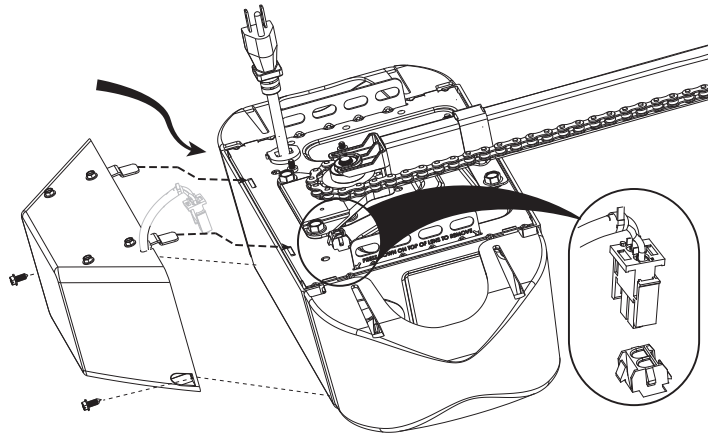

FIG. 2
5. If equipped, unplug and remove battery backup (BBU) from back of motor housing. Fig. 2.